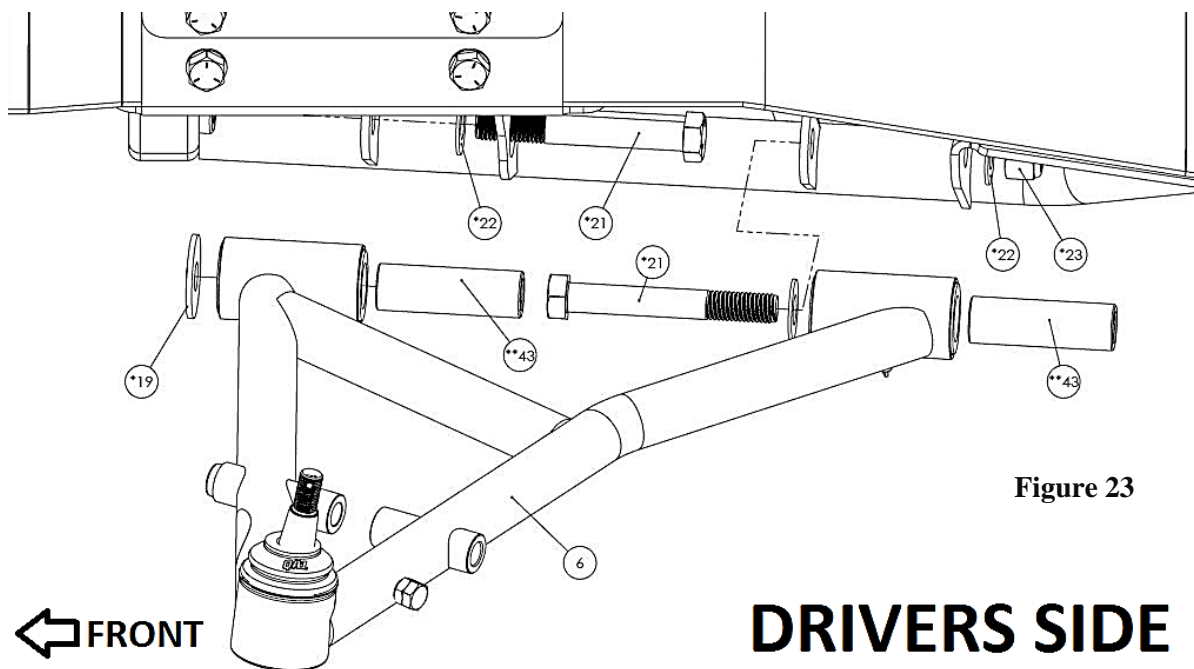

Figure 23
16. Identify the correct lower control arm orientation with the ball joint facing up and the arched tube of the control arm towards the rear of the truck. **(Figure 23)**